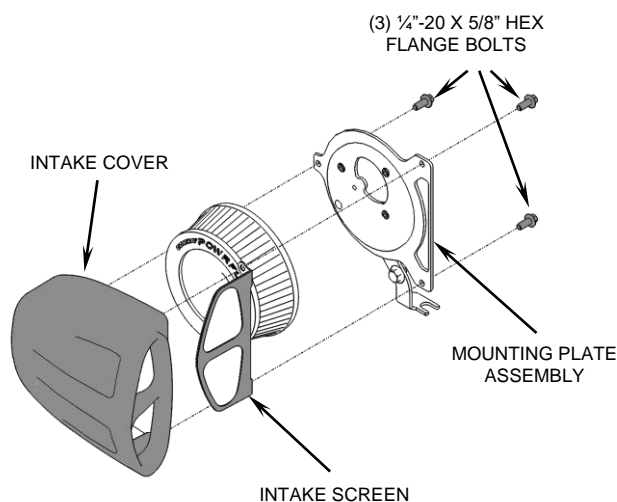

FIGURE 3
14. Place intake cover over the mounting plate assembly and align the mounting holes to the threaded bosses. Insert the (3) supplied 1/4"-20 x 5/8" hex flange bolts and tighten the mounting plate to the intake cover. See Figure 3.